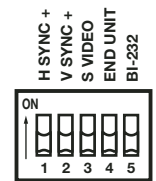

Figure 4. DIP Switches
- See figure 4 for DIP switch (located on the front panel of the receiver) layout and settings.